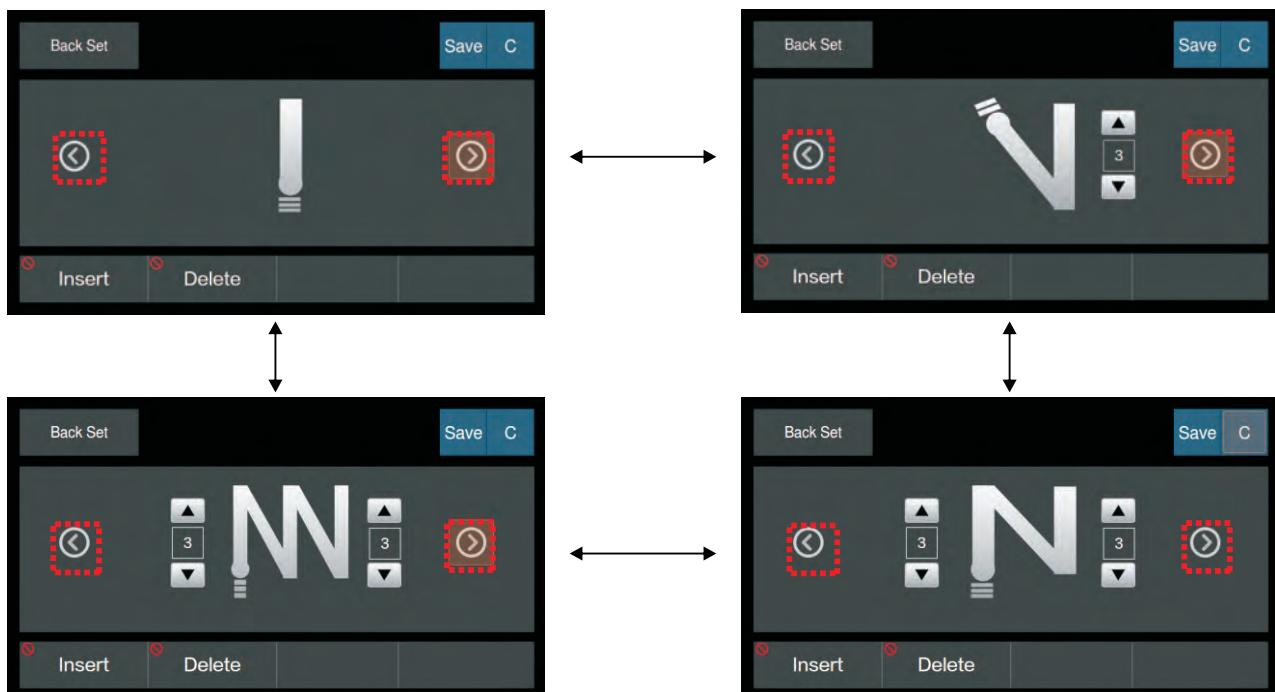

Figure 2-5 Back reverse stitching mode switching
Touch the pattern in the setting interface, and the rear reinforcement patterns are cyclically switched as shown in Figure 2-5. Among them, Figure ① pattern is no reinforcement, Figure ② pattern is single segment reinforcement, Figure ③ pattern is two-segment reinforcement, and Figure ④ pattern is four-segment reinforcement.